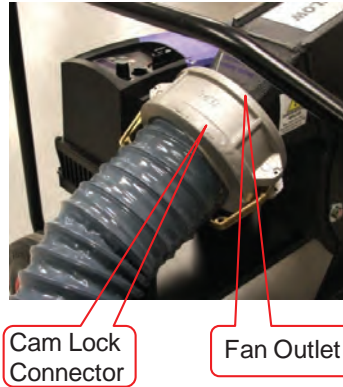
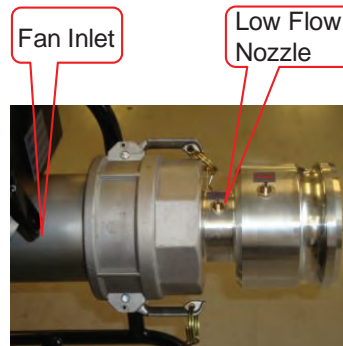

Figure 6. Positive Pressure, High-Flow Setup
Figure 7. Positive Pressure, Low-Flow Setup
- a. For positive pressure, high-flow testing, remove the low flow nozzle if it is installed. Then, connect the gray cast-aluminum cam lock connector to the outlet side of the blower per Figure 6. Close both cam lock arms at the same time to ensure proper fit.
- b. For positive pressure, low-flow testing, add the low-flow nozzle to the blower inlet if it is not installed per Figure 7. Then, connect the gray cast-aluminum cam lock connector to the outlet side of the blower per Figure 6. Close both cam lock arms at the same time to ensure proper fit.